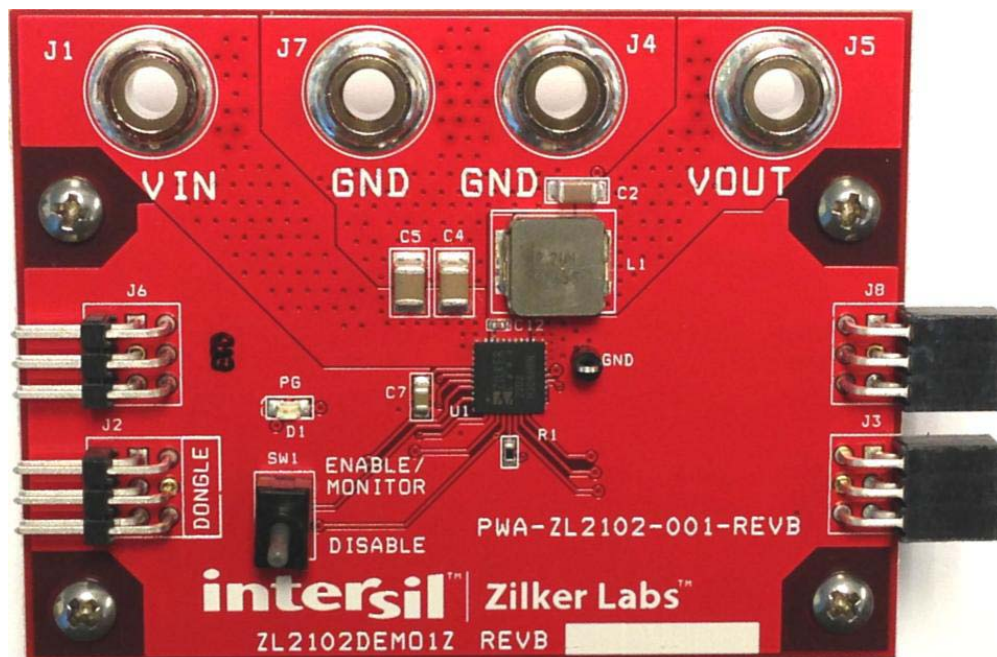
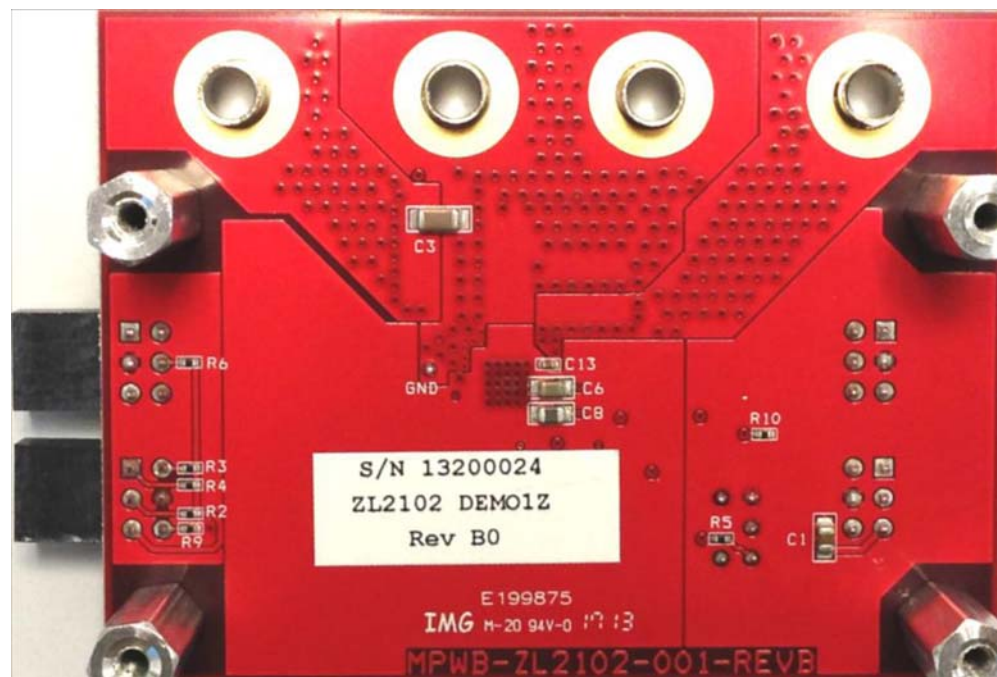

FIGURE 2. TOP SIDE
FIGURE 3. BOTTOM SIDE
The ZL2102DEMO1Z Demo Board provides a simple platform to demonstrate the features of the ZL2102. The ZL2102DEMO1Z has a functionally optimized ZL2102 circuit layout that allows efficient operation up to the maximum output current. Power and load connections are provided through plug-in sockets. Standalone operation is achieved using a combination of pin-strap settings and stored settings. The pin-strap setting details are described in the ZL2102 data sheet. The stored settings are listed in “Default Configuration Settings” on page 11. The ZL2102DEMO1Z Demonstration Board is shown in Figure 2 and Figure 3. The hardware enable function is controlled by a toggle switch. The power-good (PG) LED indicates that  $V_{OUT}$  is regulating. The right angle headers at opposite ends of the board are for connecting a USB to SMBus control board or for daisy chaining of multiple Intersil evaluation boards.